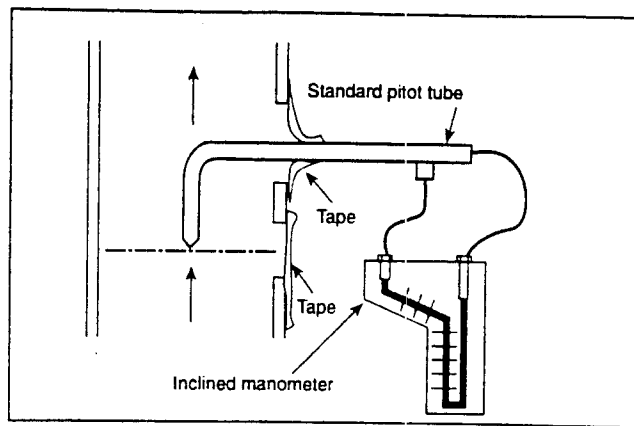

Figure A-6. Test arrangement for standard pitot tube
- Step 11. Disconnect the pitot tube lines from the Type S pitot tube and attach them to the standard pitot tube as shown in Figure A-6 (or to the meter box as shown by your instructor).
- Step 12. Insert the standard pitot tube into the duct until the mark is at the outside edge of the duct wall, as shown in Figure A-6.